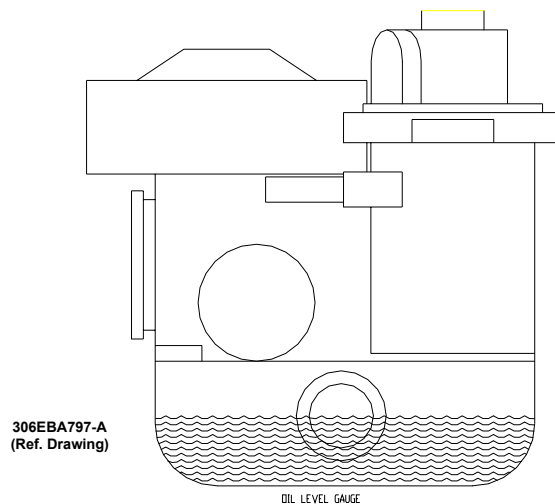

Figure 5-4 – OIL LEVEL GAUGE, OIL FILL AND OIL DRAIN
PROCEDURE FOR CHECKING OIL LEVEL (Figure 5-4, Page 51) - Check the oil level when the compressor is shutdown and the oil/air mixture has separated. The oil should be visible between the min. and max. range, shown in Figure 5-4, page 51. If the oil level is above the max. range, the oil must be drained. If the oil level is below the min. range, oil must be added.
DO NOT OVERFILL. The quantity required to raise the oil level from the min. line to the max. line, (Figure 5-4, page 51), is one (1) quart (Figure 5-2). Repeated addition of oil between oil changes may indicate excessive oil carryover and should be investigated.
7. Add oil, if necessary, to bring level to the max. range on the oil level gauge (Figure 5-4, page 51).
OIL LEVEL GAUGE (Figure 5-4, page 51) - The oil level gauge indicates the amount of oil in the air/oil reservoir. Read oil level only when the unit is shut down and the air/oil mixture has separated. Add oil only when the oil level is at the bottom of the site glass. Drain oil only when the oil is above the top of the site glass.